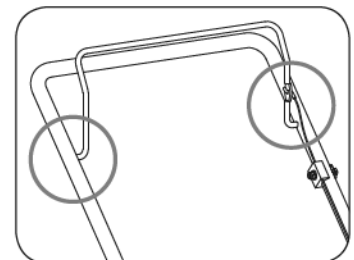

Figure 10
1. Lubricate pivot points on the blade and drive controls at least once a season with light oil. These controls must operate freely in both directions. (See **Figure 10**)